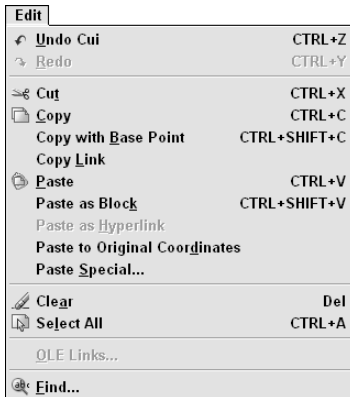
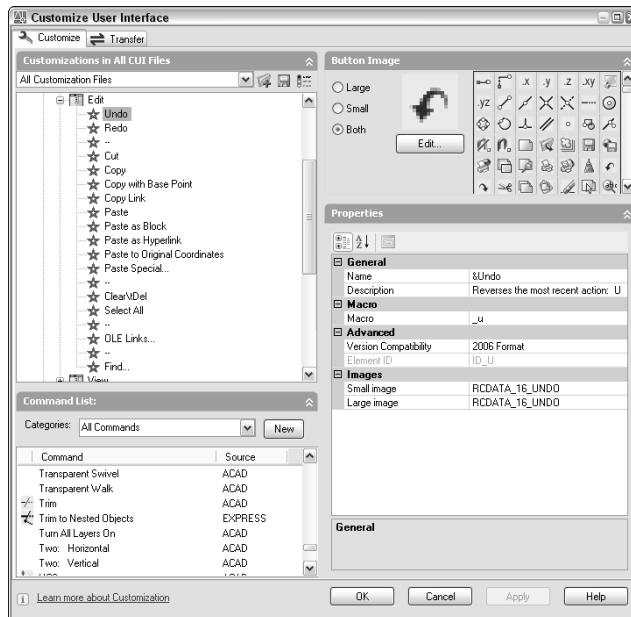

Figure 33-4: The Edit menu.
Figure 33-5: The Edit menu in the Customize User Interface dialog box.
The Menus section controls the drop-down (or pull-down) menus, which are the menus along the top of your screen. You can customize existing menus or add your own menu to the main customization file. You can also create a partial customization file with one or more menus. Figure 33-4 shows the Edit menu in AutoCAD.
Figure 33-5 shows the Edit menu in the Customize User Interface dialog box. Compare it to Figure 33-4. Look for the separator lines and underscored letters.
- ♦ To add a separator line below any item, right-click that item and choose Add Separator from the shortcut menu. You also see a separator line [ - - ] in several places in Figures 33-4 and 33-5. The separator helps to organize a menu into logical sections.